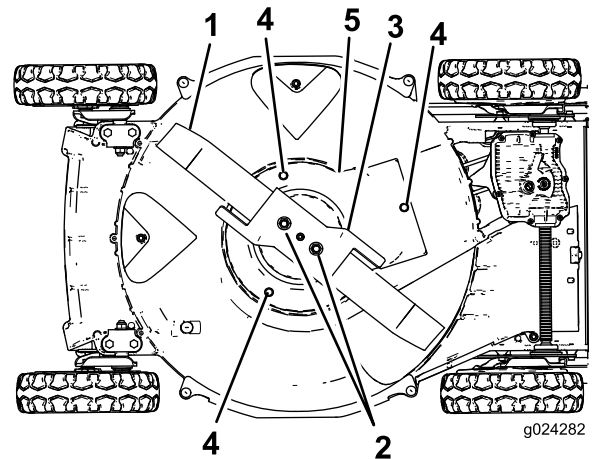

Figure 33
6. Remove the 2 blade nuts, the accelerator, and the blade (Figure 33).
7. Remove the screws that secure the blade-brake-clutch shield to the mower housing (Figure 33).